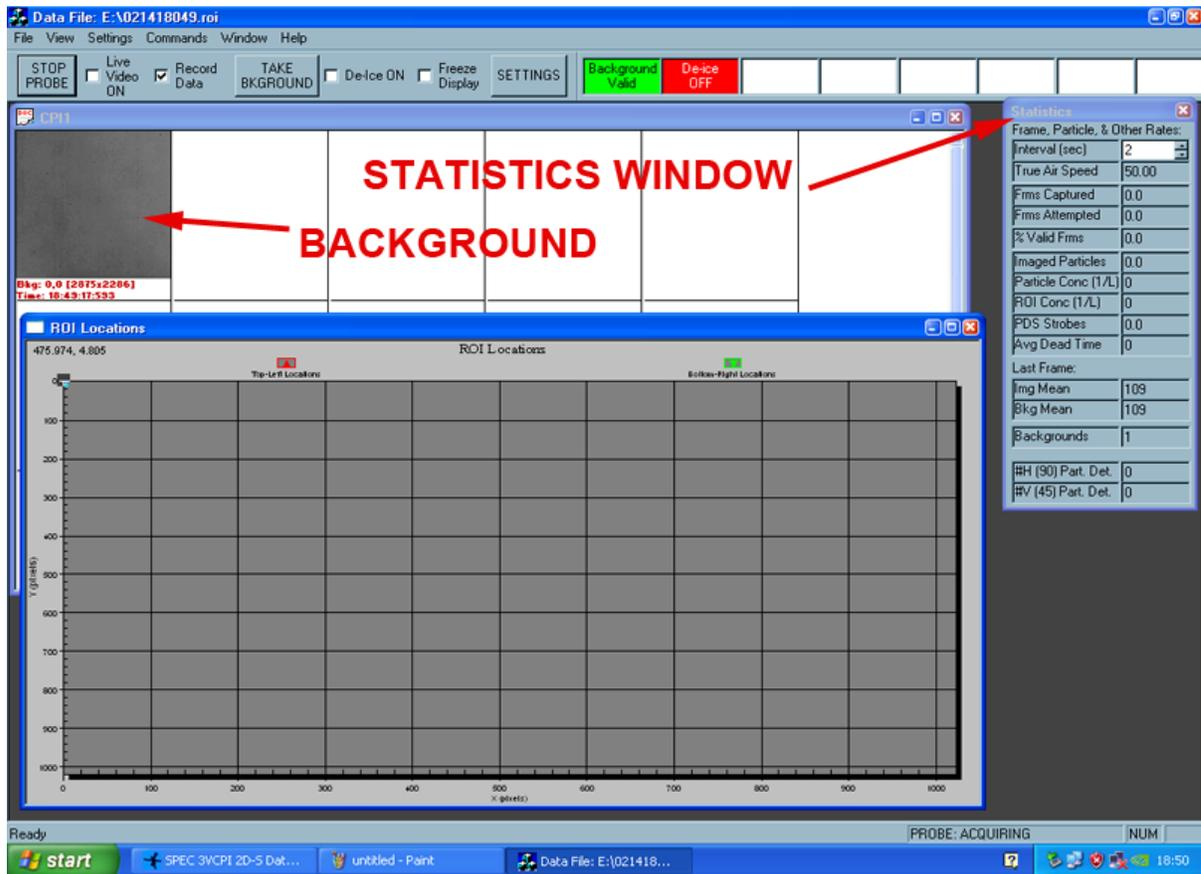

Figure 2.3.5. Startup screen of CPI GUI.
8. After about ten more seconds, you should see the CPI startup screen, as seen in **Figure 2.3.5**. This contains a particle image display window with at least one background image. You should see a “Statistics” window on the right-hand side of the screen, as shown in **Figure 2.3.5**. If you see a screen like **Figure 2.3.5**, then your Hawkeye has been started correctly and is running. See the “Software Description and Real Time Operation, **Section 4**) for further instructions on fine-tuning and running your Hawkeye.
If you DO NOT see a screen like **Figure 2.3.5**, then the software or probe has a problem. Review the Hawkeye cable connection procedure and Hawkeye startup procedure to make sure that they were done correctly. If these procedures were followed correctly, then please see the “Real Time Operation and Troubleshooting, **Section 3.2**).
1. To disconnect from the CPI, click the Stop Probe button in the upper left-hand corner (see **Figure 2.3.5**). Once stopped, the CPI GUI window may be closed.